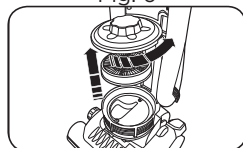

Fig. 7
2. Remove the exhaust filter cover by turning the lid counterclockwise until it clicks (Fig. 7).
3. Remove the exhaust filter and replace with a new filter (Fig. 7).